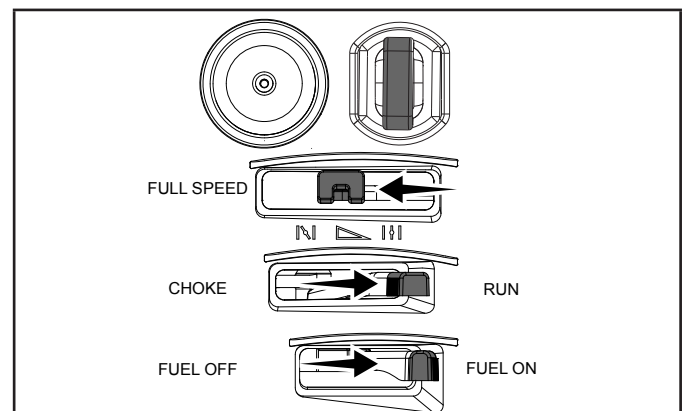

Figure 10
2. To start a warm engine: (Fig. 10).